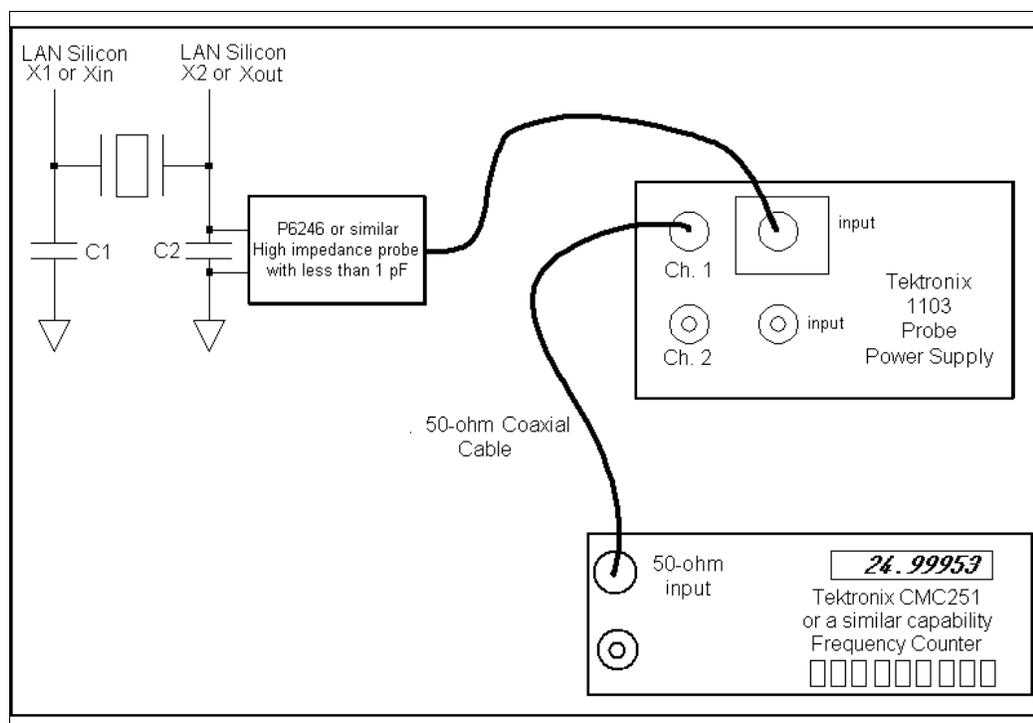

Figure 21. Direct Probing Method
The probe should be connected between the XTAL2 pin of the LAN device and a nearby ground. Typically, it is possible to connect the probe pins across one of the discrete load capacitors (C2 in Figure 21).
2. Connect the test equipment as shown in Figure 21.